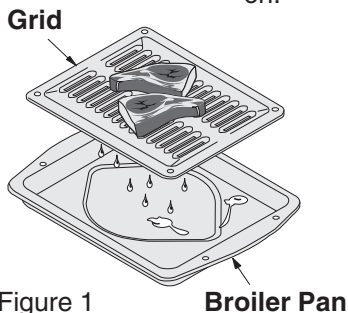

Figure 1
- Use the broiler pan and grid, and the roasting rack (Figure 1). The broiler pan will catch grease spills and the grid will help prevent spatters. The roasting rack will hold the meat.
- Always use the broiler pan and its grid when broiling. It allows the dripping grease to be kept away from the high heat of the broil element (see Figure 1).